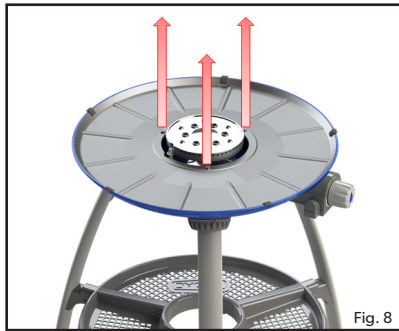
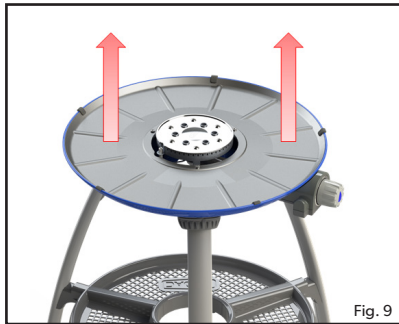
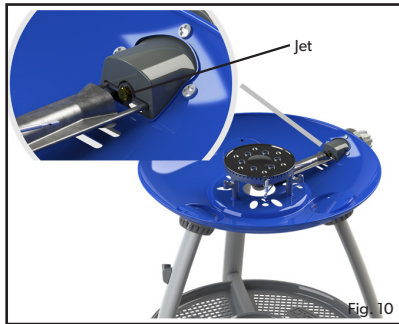

Fig. 8
Fig. 9
Fig. 10
- To replace the jet: Remove the three screws from the heat shield plate (Fig. 8). Remove the heat shield plate (Fig. 9), taking care not to damage the piezo electrode. The jet can now be removed using a suitable spanner (Fig. 10). Do not use pliers on the jet as this may damage the jet, making it unusable or impossible to remove. Screw the new jet into the valve. Do not over-tighten as this may damage the jet.